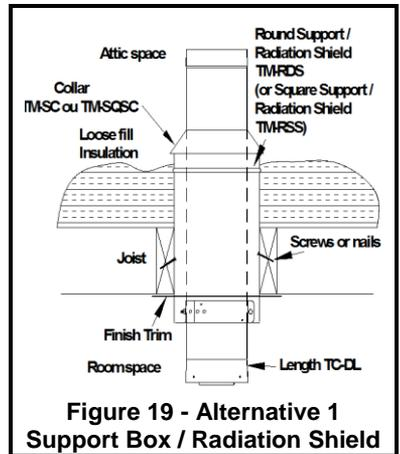

Figure 19 - Alternative 1 Support Box / Radiation Shield
A Round Support (RDS) with a Storm Collar (SC) on top or a Square Support (SS) with a Square Support Storm Collar (SQSC) on top to prevent loose fill insulation from falling in the space between the direct vent and the support. Figure 19.